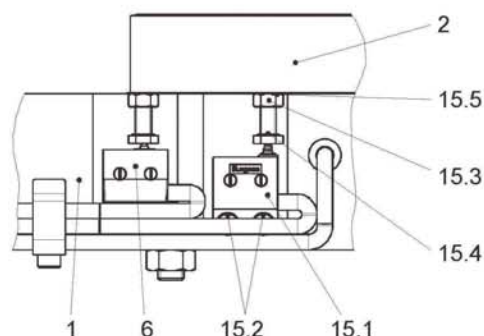

Fig. 10
Wear Monitoring (15) Fig. 10 (Optional, dependent on Type)
Only one microswitch for wear monitoring (15) is required per ROBA®-twinstop®, which is mounted onto the brake as shown in Fig. 10.
Manufacturer-side Adjustment and Functional Inspection of the Microswitch (15.1), see Fig. 10